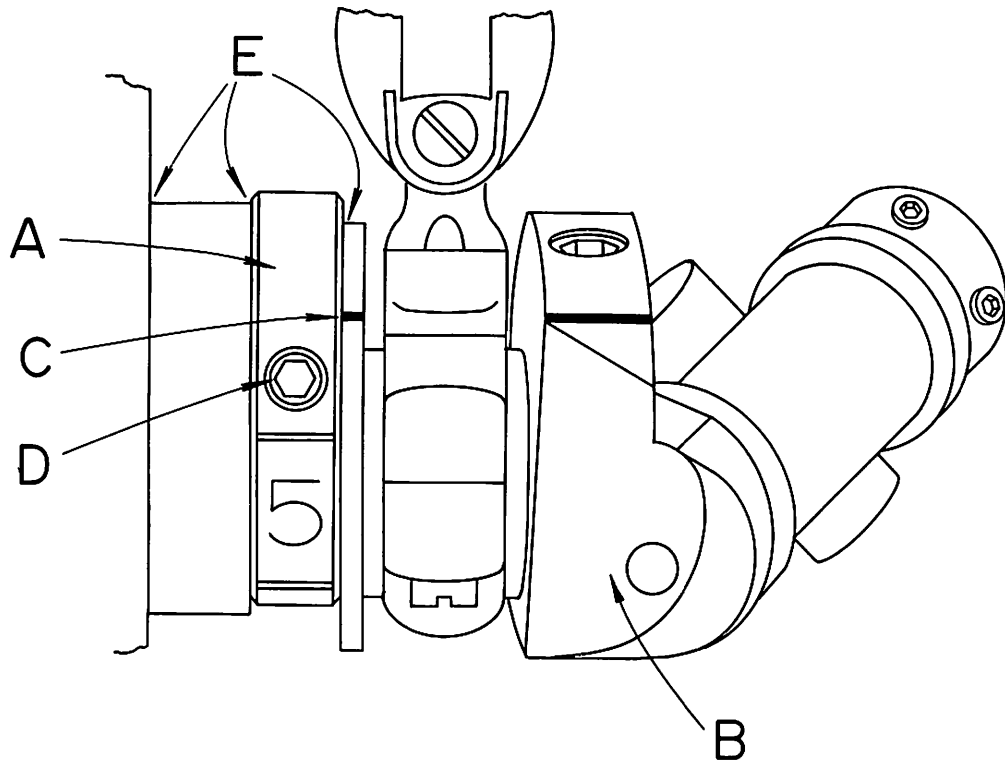

FIGURE 5
3. In the event that the timing of the looper must be changed, the crank cam can be adjusted. The normal setting of the crank cam (Item B, Figure 5) is the timing mark on the